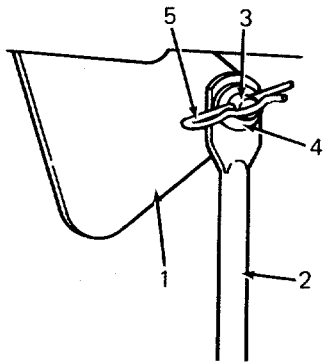

Figure 42
- Remove the four lift links from the lift carriage lift pins as follows: Lift the deck slightly by hand and remove the hairpin cotter and flat washer which secure each lift link to the lift pins. (Refer to Figures 42 and 43.)